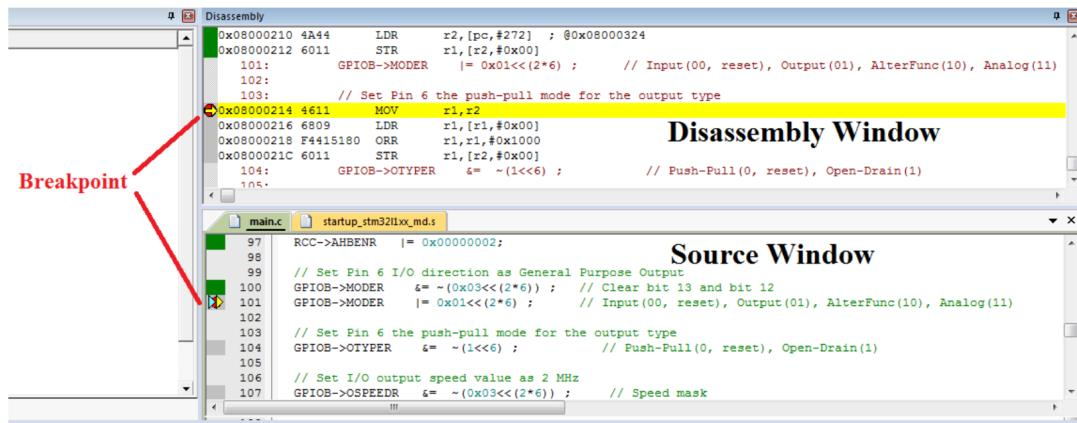

Figure 2: Disassembly and Source Windows
**Start/Stop Debug** - Start/Stop the debugging session. Note that if the disassembly window is in focus, the debugger executes assembly instructions step by step. If the source window is focused, the debugger steps through the program source lines instead (see Figure 2).